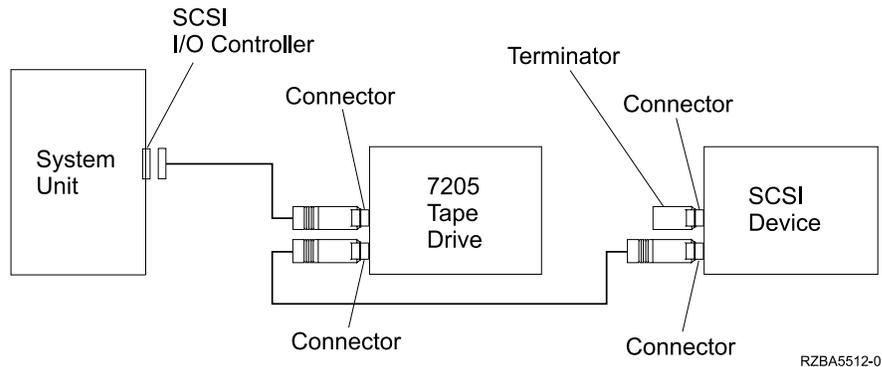

Figure 5. Example of Attaching Multiple SCSI Devices to the System Unit
- If the 7205 Digital Linear Tape Drive is part of a multiple-device configuration, connect the SCSI cable to the next device (see Figure 5 on page 12).
- If there is more than one device on the SCSI bus, move the terminator to the last device as shown in Figure 5.